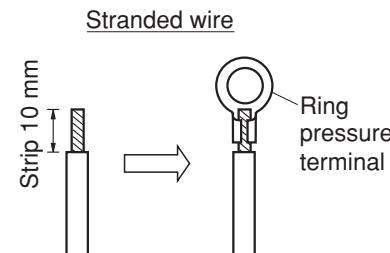

Fig. 5-5
- (1) Cut the wire end with cutting pliers, then strip the insulation to expose the stranded wiring about 10 mm and tightly twist the wire ends. (Fig. 5-5)
- (2) Using a Phillips head screwdriver, remove the terminal screw(s) on the terminal plate.
- (3) Using a ring connector fastener or pliers, securely clamp each stripped wire end with a ring pressure terminal.